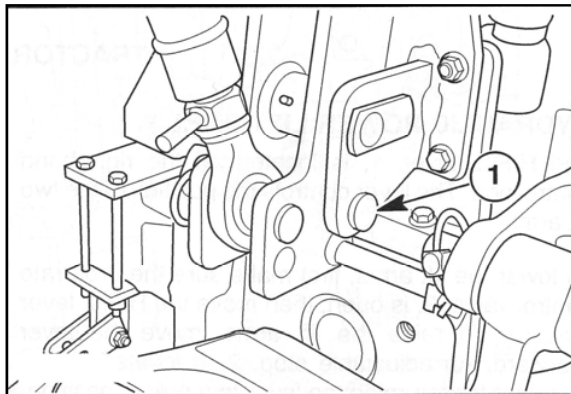

Figure 2-50
NOTE: Remove lock pin (1) in Figure 2-50, for draft control linkage to be operative.